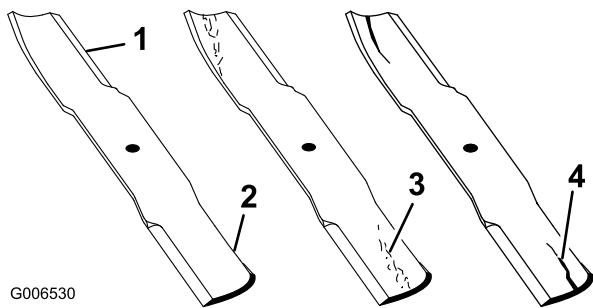

Figure 52
1. Inspect the cutting edges (Figure 52). If the edges are not sharp or have nicks, remove and sharpen the blades. Refer to Sharpening the Blades.
2. Inspect the blades, especially the curved area (Figure 52). If you notice any damage, wear, or a slot forming in this area (Figure 52), immediately install a new blade.